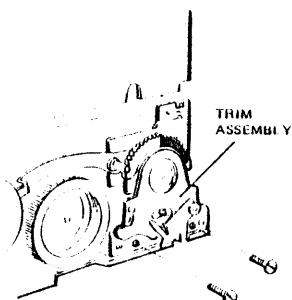

FIGURE 4-35
4. Put back trim assembly (see Figure 4-35).